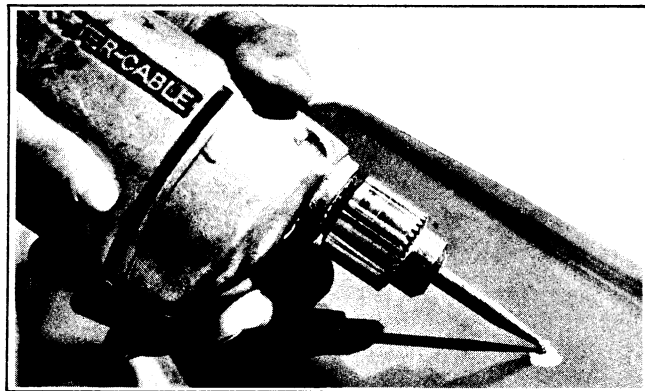

Figure 2-66. Roughing Damaged Area
2. Roughen the bottom and sides of the damaged area, using a power drill with a burr attachment. Feather the edge surrounding the scratch or gouge, being careful not to undercut this edge. See Figure 2-66.